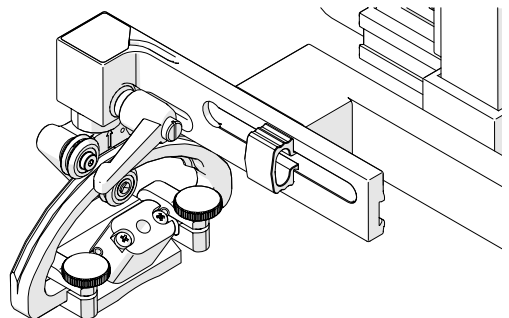

Fig. 190 - Probe/wedge affixed to probe holder
5. Mount the probe/wedge (Fig. 190) to the long stroke vertical probe holder (see “Probe Holder Setup” on page 96).